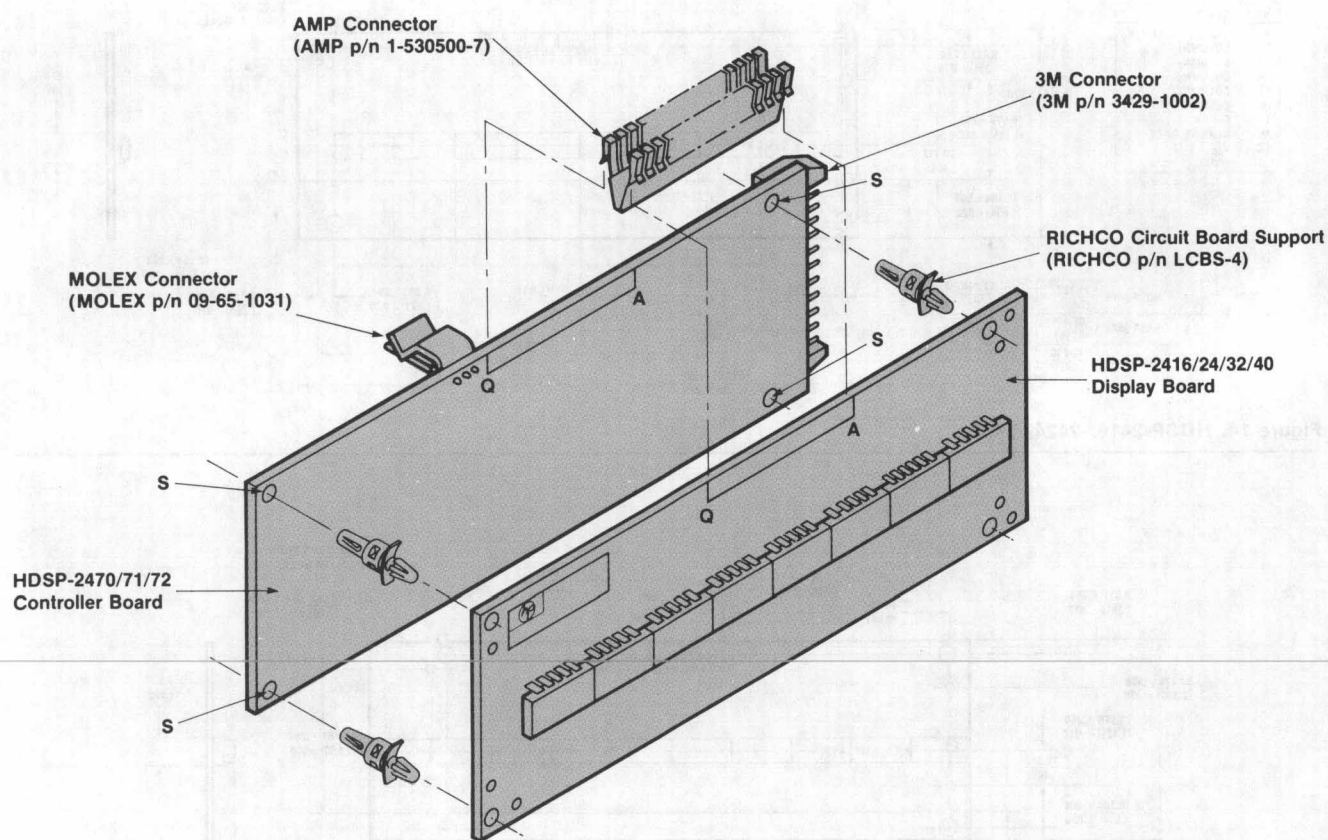

Figure 12. Assembly Drawing.
Included with the controller board are: 1 each Amp P/N 1-530500-7 board to board connector, and 4 each locking circuit board support nylon standoffs (Richco LCBS-4). This hardware allows the controller board to interconnect with any of the standard display boards. Figure 12 depicts correct assembly technique.
1. Insert the standoffs into .151 diameter holes (noted as "S" on Figure 12). The long end of the standoffs should protrude through the controller board side.
3. After the standoffs are secured, the Amp connector should be placed on the edge connect pads (marked "A" through "Q" Figure 12) at the top of the boards. Visual alignment of this connector may be done on the controller board by determining that the first connector or contact finger is centered on the pad labeled "A".